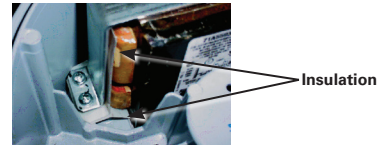

FIGURE 2a
- For MH PS 175W luminaire perform visual check that insulation material is present on both sides of the ballast bracket. See figure 2a